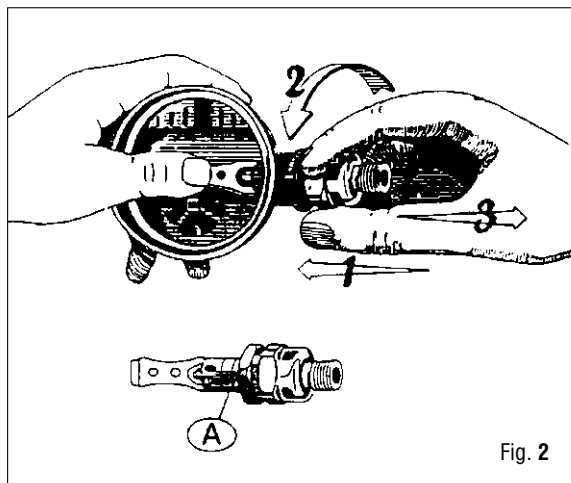

Fig. 2
14. Remove second stage diaphragm (36).
15. Remove snap ring (65), using snap ring pliers or a small screw driver.
16. Depress and hold the demand lever (35) in the down position. (Fig. 2).
17. Push the connector case inward (towards the second stage case) until the locking tabs are disengaged from the second stage case ears (Fig. 2).
18. Keeping the demand lever depressed, rotate the connector case 90 degrees counter clockwise (Fig. 2).
19. Pull the connector case out of the second stage (Fig. 2-A).